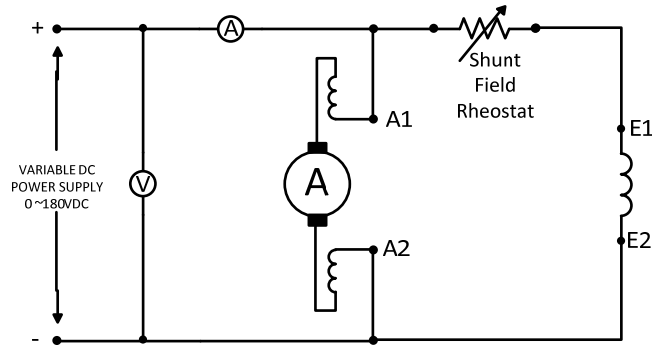

Fig 6-1: Circuit diagram for field speed control
2. Construct the circuit shown in Fig 6-1.